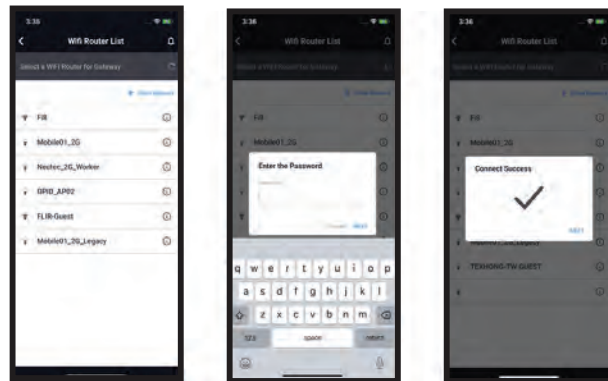

Figure 8.4 Adding a new network or selecting an existing one.
3. Select a Wi-Fi network from the list or tap + **Other Network** to add a new network (see Figure 8.4 above).
3. Tap **+ Add Server** in the mobile app to setup a new network or select an existing one from the list as shown in Figure 8.4 above.